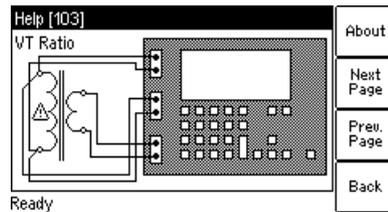

Figure 8-12 Wiring example for VT ratio measurement
1. Connect the "Output" sockets and input "Sec" of the *CT Analyzer* to the primary side of the VT and input "Prim" of the *CT Analyzer* to the secondary winding of the VT (see Figure 8-12).